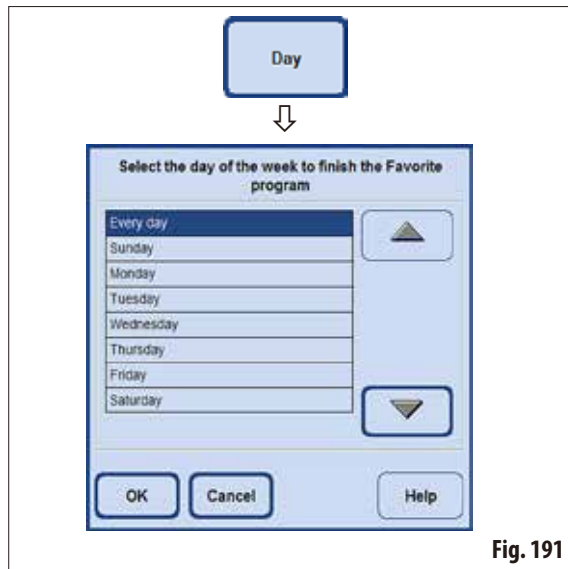

Fig. 191
- Select the desired day from the list and confirm with **OK** (Fig. 191).